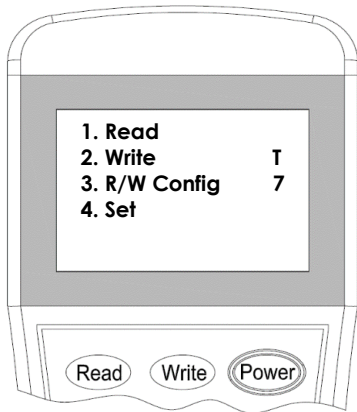

Figure 7
3. Switch on the programmer, then press button **"4"** to enter the setting mode (Figure 7).